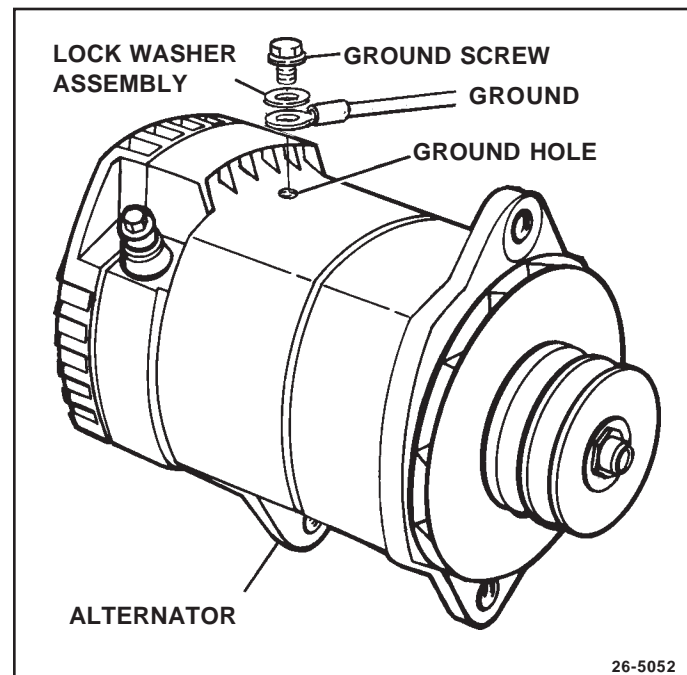

Figure 53. Installing Ground Lead
11. Ground lead, if used, to ground hole in rectifier end housing, with ground screw/lockwasher assembly. (See Fig. 53) If ground lead is not used, be sure screw/lockwasher is installed in ground hole and properly tightened to prevent entry of water or dirt.